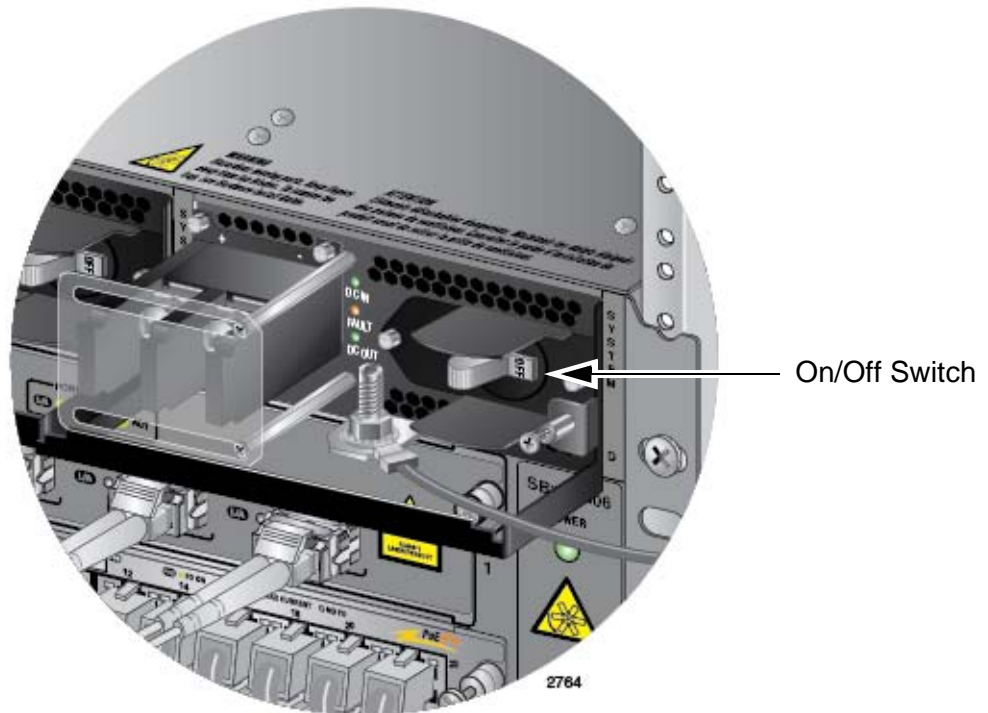

Figure 124. On/Off Switch On the AT-SBxPWRSYS1 DC Power Supply
3. Verify that the On/Off switch on the AT-SBxPWRSYS1 DC Power Supply is in the Off position. Refer to Figure 124.
13. Turn the On/Off switch on the power supply in the chassis to the On position. See Figure 124 on page 183.
3. Verify that the On/Off switch on the AT-SBxPWRSYS1 DC Power Supply is in the Off position. Refer to Figure 124 on page 183.
12. Turn the On/Off switch on the power supply to the On position. See Figure 124 on page 183.
2. Verify that the On/Off switch on the AT-SBxPWRSYS1 DC Power Supply is in the Off position. Refer to Figure 124 on page 183.